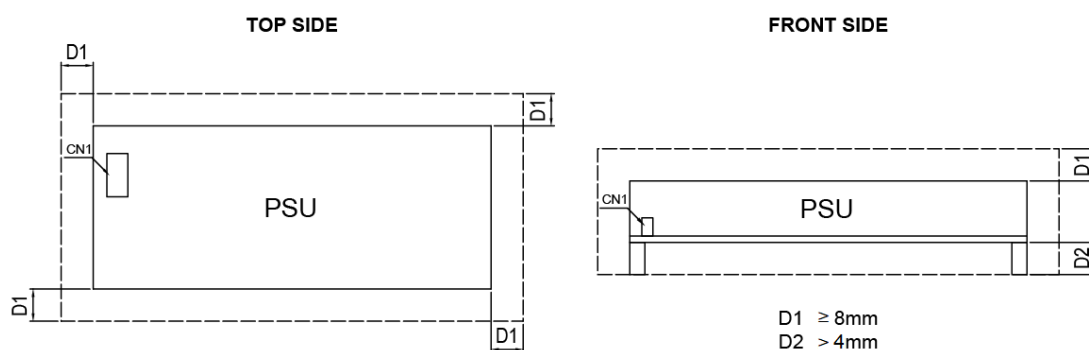

Fig. 3 Assembly Reference
- For safety reason, please ensure the mounted device is kept at ≥ 8 mm safety distance for D1 from other components and equipment; and ≥ 4 mm distance for D2. Please insert an insulation sheet between the system and product, if the safety distance is < 8 mm for D2 (Refer to Fig. 3)